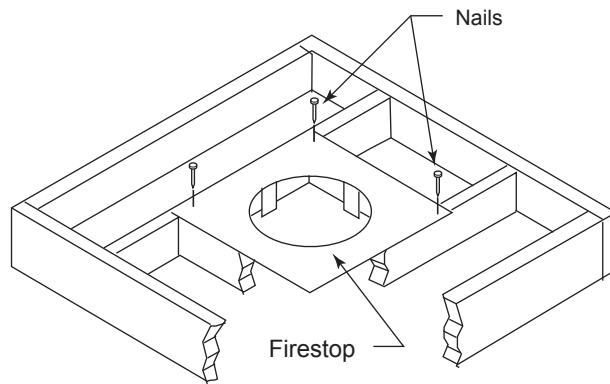
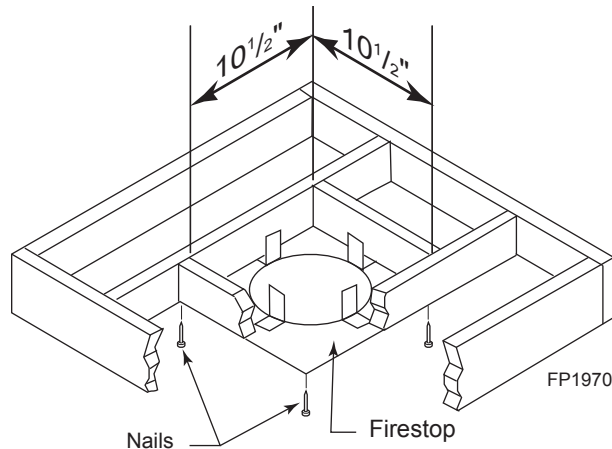

Figure 38 -
Figure 39 -
1. Cut a 10½" (267 mm) square hole in the ceiling using the locating hole as a center point. The opening should be framed to 10½" x 10½" (267 x 267 mm) inside dimensions as shown in *Figure 39* using framing lumber the same size as the ceiling joist. If the area above the ceiling is an insulated ceiling or a room, nail firestop from the top side. This prevents loose insulation from falling into the required clearance space. *Figure 39*. Otherwise, install firestop below the framed hole. The firestop should be installed with no less than three (3) nails per side. *Figure 38 or 39*.